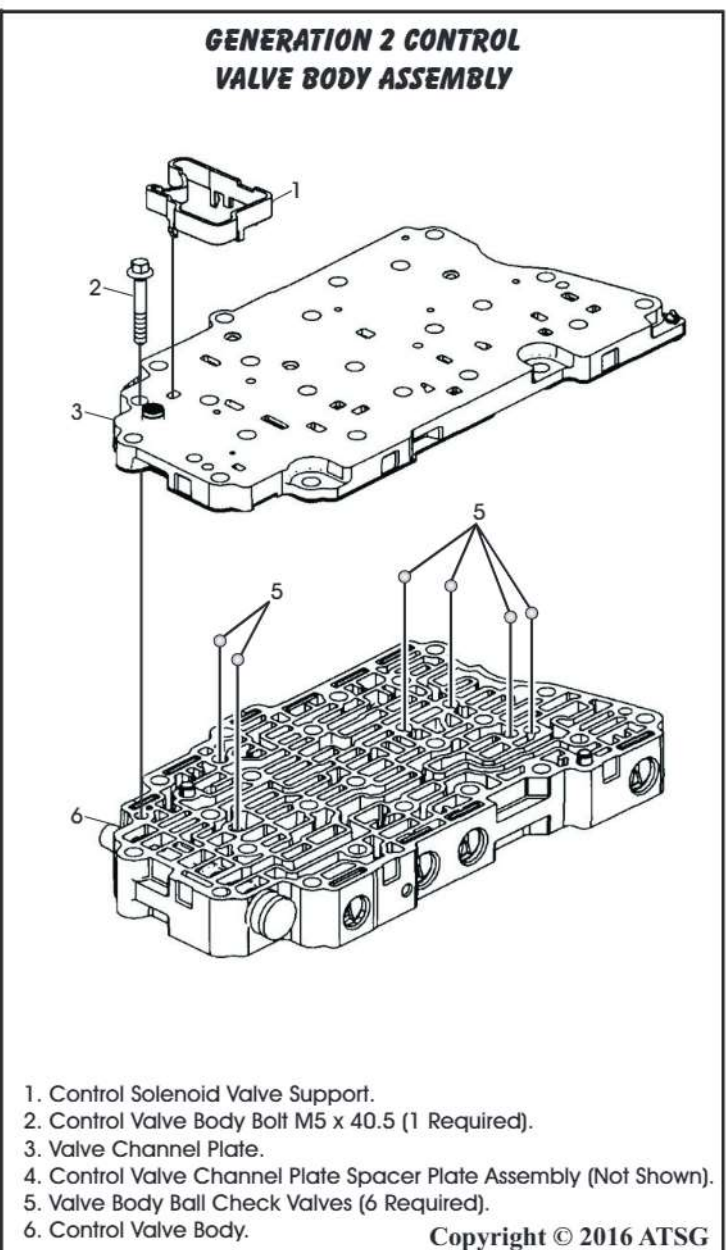

Figure 141
36. Place the assembled Generation 2 channel plate and spacer plate assembly onto the main control valve body assembly as seen in Figure 141.
37. Install the control solenoid valve support as seen in Figure 141.
38. Insert the control valve body bolt into the location shown in Figure 141 and hand tighten the bolt.